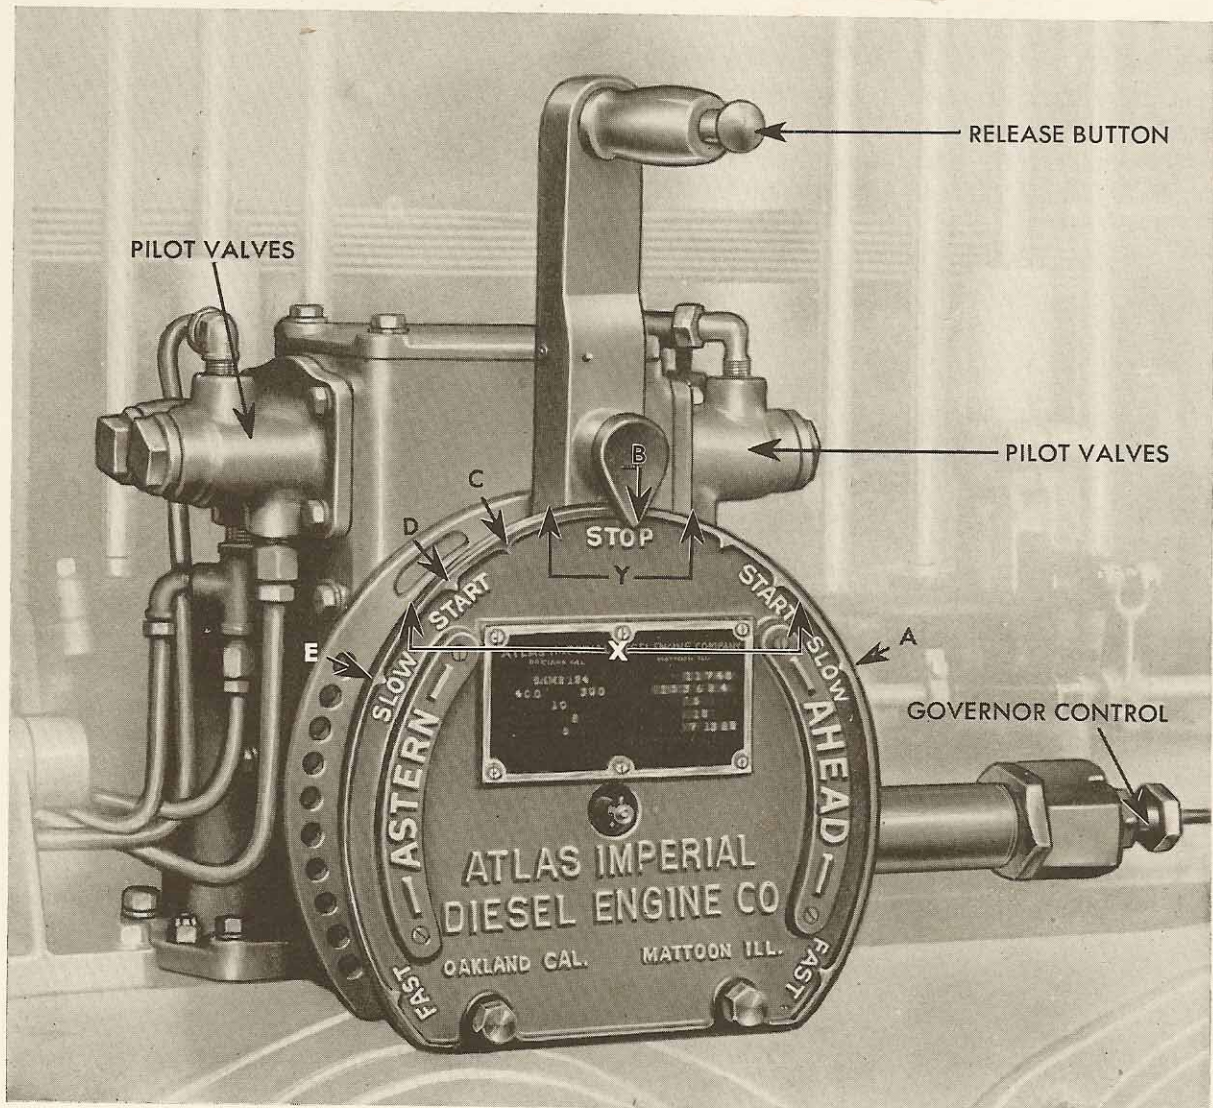

FIGURE 5-17
- (a) The control lever will be in the ahead position in the first running notch. "A" Figure 5-17.